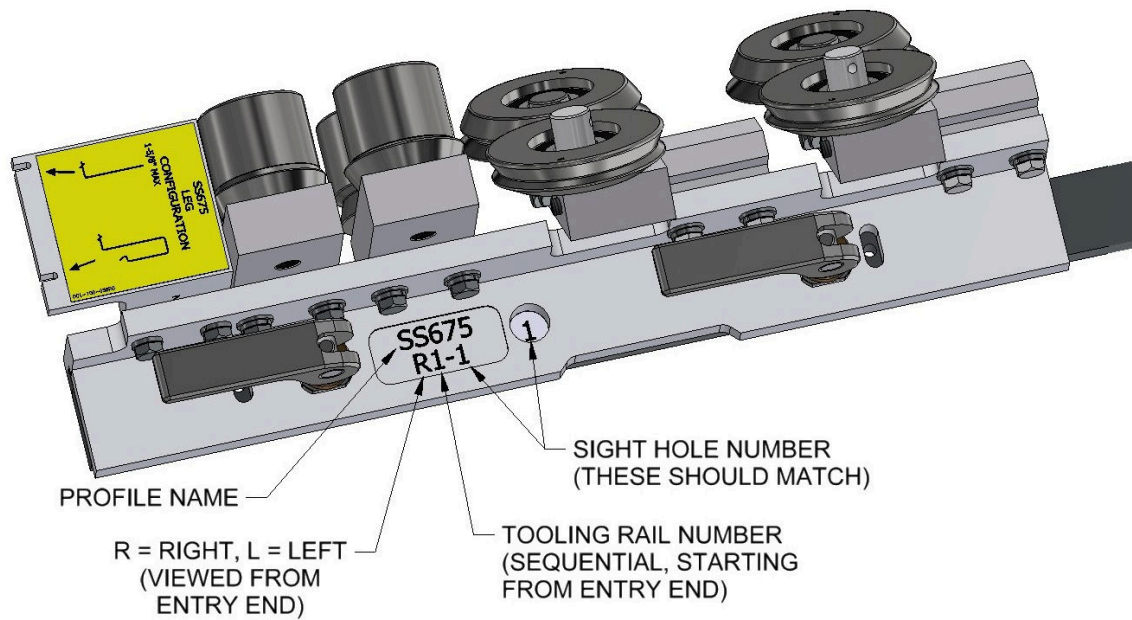
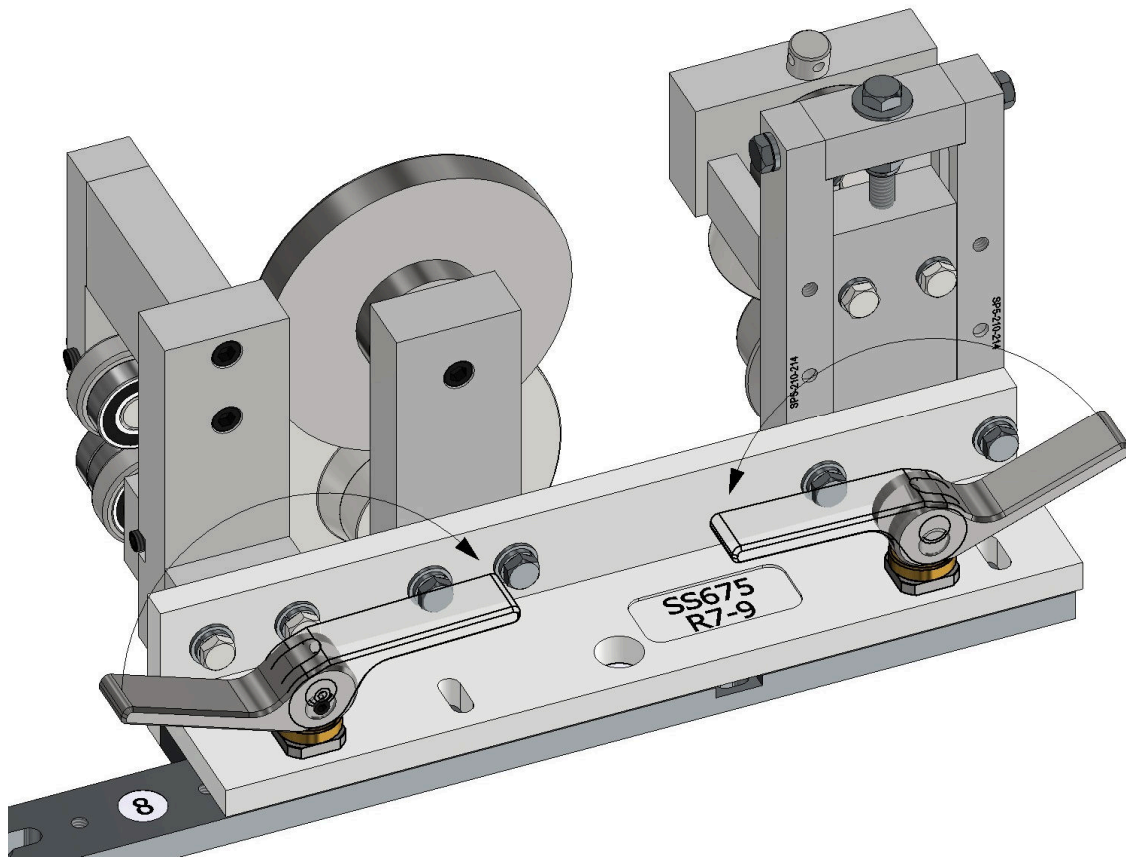

Figure 67: Tooling Rail Identification
Figure 68: QWIKSwap™ Tooling Rail Installation
9. To install the tooling rails, use the engraved tooling rail identification to determine where to place them in the machine (Figure 67). It is best to start installing at the exit end of the machine and work toward the entry end. Find the tooling rail with the largest number on either the left or right side and place it on the fixed mount rail making sure the correct number shows in the sight hole (Figure 67). Push the two clamp levers fully down (Figure 68). **Do not twist the levers after they are tightened or it might damage the components.**